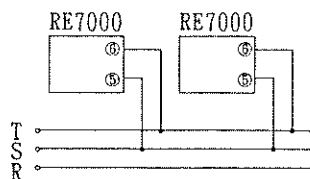

Fig. 8
- (2) Power supply must be connected in phase. (See Fig. 8)